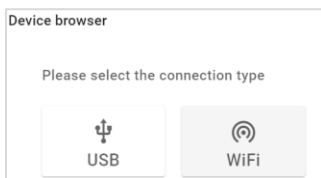

Figure 52
4. Press  and select **WiFi** (Figure 52).